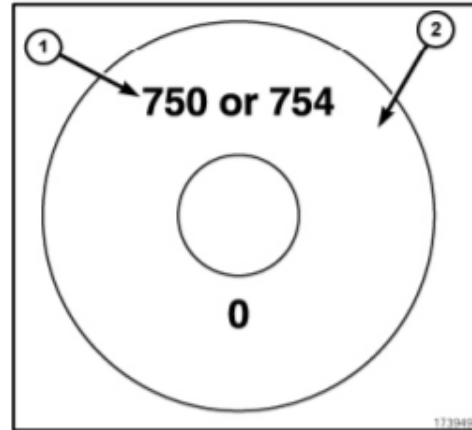

Figure 21 – HPFP Shaft End Markings (Example)
9. Perform the following phasing procedure anytime the injection pump has been removed and reinstalled. Rotate the injection pump shaft until the center number of the 3-digit stamped number (number 5 (1) in the example numbers 750 and 754 pictured in Figure 21) on the shaft is positioned at the 9 o'clock position (Figure 22).
- a) Locate the end of the fuel injection pump shaft (2). Two numbers (750 or 754 and 0 in this example, actual number will vary) are stamped into the end of the shaft (Figure 21).